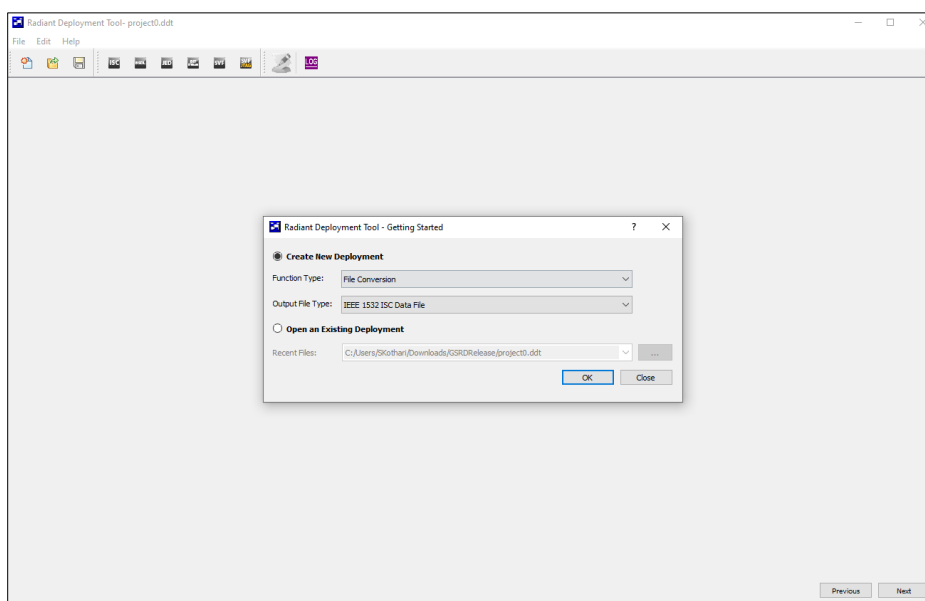

Figure 7.58. Deployment Tool Start Window
- This opens the Deployment Tool window as shown in Figure 7.58.